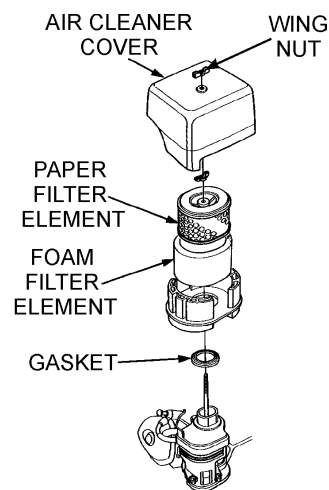

Figure 20. Engine Air Cleaner
1. Remove the air cleaner cover and foam filter element as shown in Figure 20.
2. Tap the paper filter element (See Figure 20) several times on a hard surface to remove dirt, or blow compressed air [not exceeding 30 psi (207 kPa, 2.1 kgf/cm²)] through the filter element from the air cleaner case side. **NEVER** brush off dirt. Brushing will force dirt into the fibers. Replace the paper filter element if it is excessively dirty.